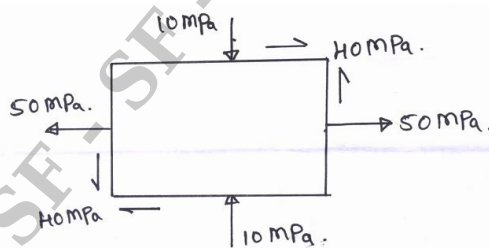

Fig. Q2 (b)
b. A point in a structural member subjected to plane stress is shown in Fig. Q2 (b). Determine the following : (15 Marks)